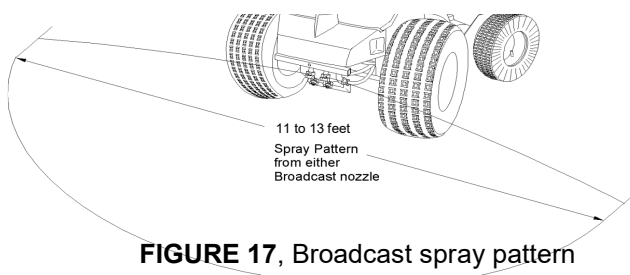

FIGURE 17, Broadcast spray pattern
With the **20 PSI** Pressure Unloader Valve installed at the factory, the sprayer has a **7-FOOT** effective pattern width and an **11 FEET** (3.4 meters) overall pattern width using a single front mounted broadcast nozzle, as shown in **FIGURE 17**. The spray distribution pattern allows the use of a **7-FOOT** (2.1 meter) overlap spreader travel pattern to achieve an even and complete coverage of the sprayed product on the entire turf area by overlapping the edge of the last spray pattern approximately **2 FEET** (.61 meter). Using a trim nozzle provides an even finished distribution over a spray pattern of **3-FOET** (.91 meters) on the surface being treated.
- Spray for **15 SECONDS** until the spray pattern is visible on the surface. The spray pattern should resemble the **11-13 FEET** spray pattern in **FIGURE 17**. Adjust as follows: